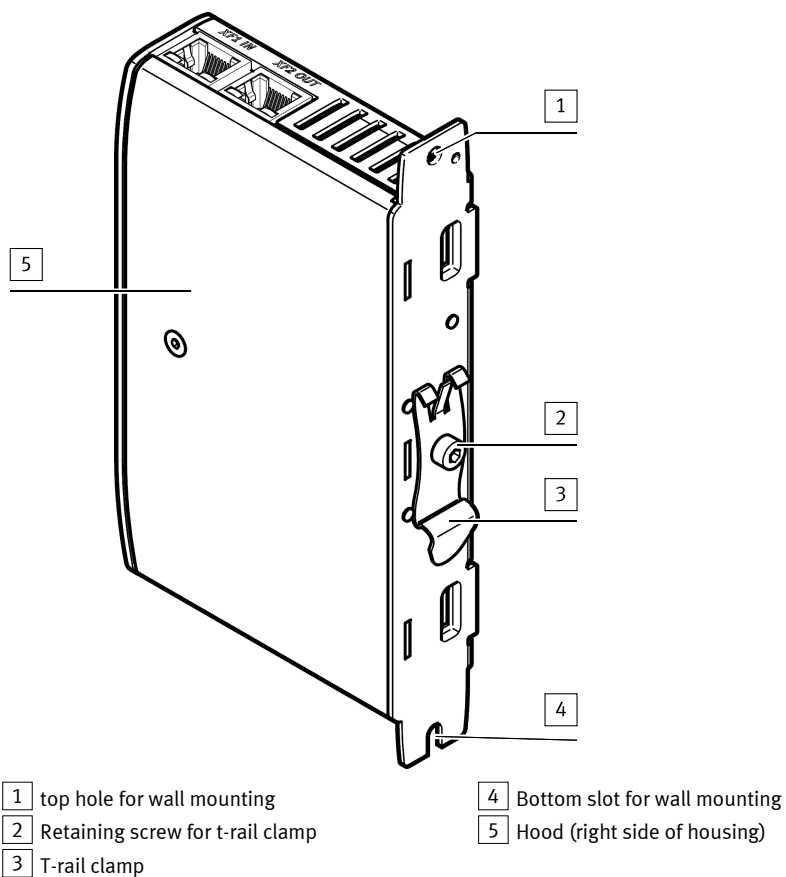

Fig. 4 Elements on the back
- If the H-rail clamp is not premounted, screw it on using the original screw on the back → Fig.4.